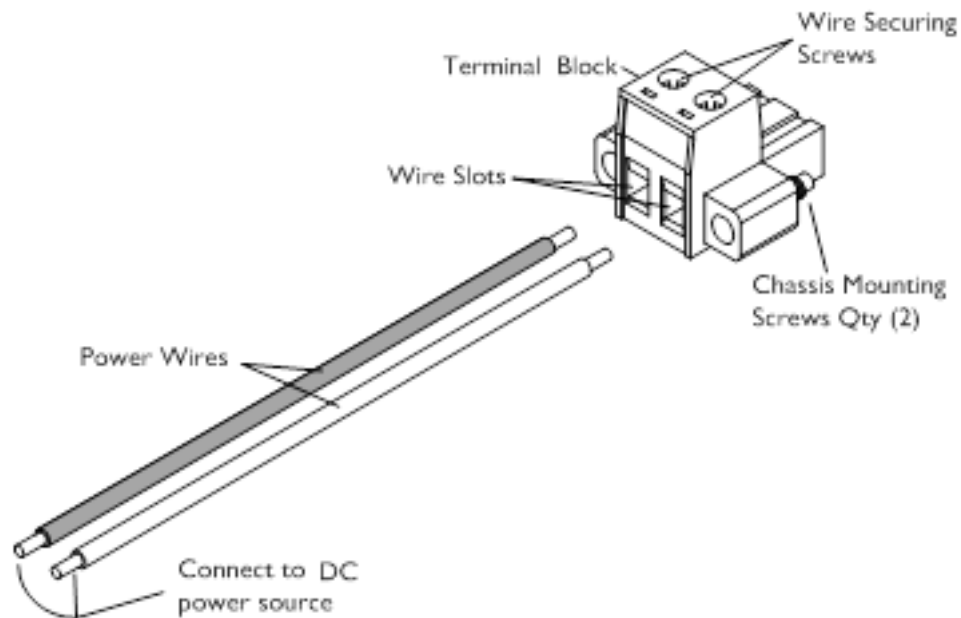

Figure 5: Terminal Block (Euro Block) Connection
3. Verify that the wiring to the ‘primary’ (+ -) of the PCVT-48VDC-53VDC is connected correctly, as shown in Figure 5 below.